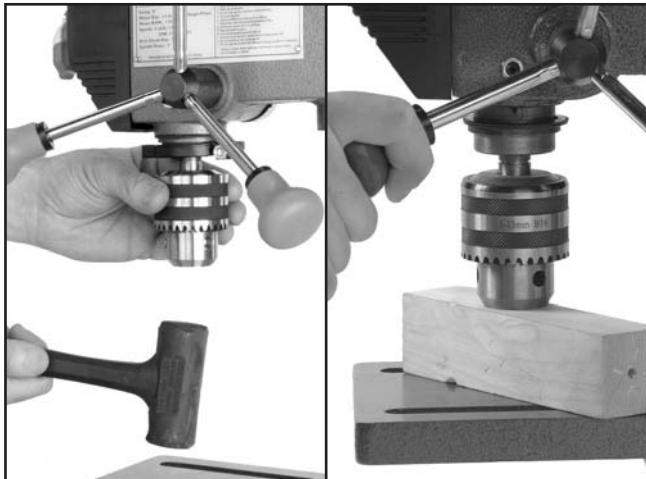

Figure 13. Installing chuck with rubber mallet or block of wood.
3. Place a block of wood on the table and set the table just under the chuck. Use the feed handles to press the arbor onto the chuck, as shown in **Figure 13**. Or, tap the chuck with a rubber mallet or plastic-tipped hammer (**Figure 13**).